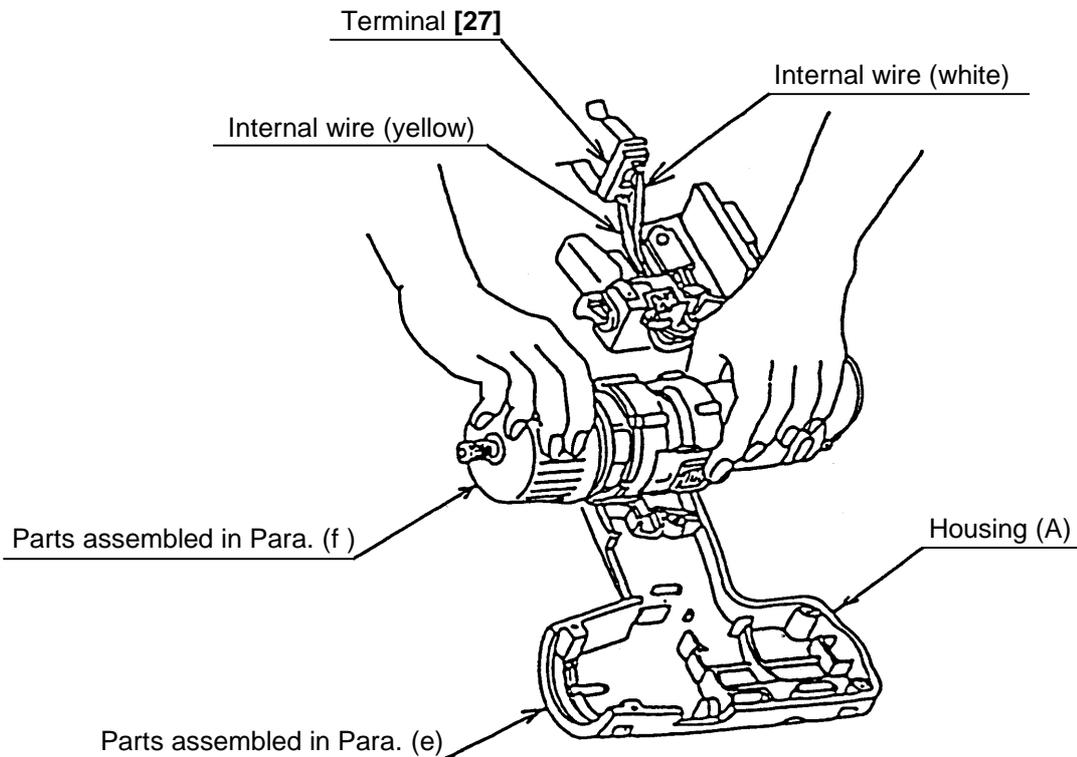

Fig. 16
(g) Mount the components assembled as described in Para. (f) onto the components assembled as described in Para. (e). At this time, ensure that colored leadwires soldered to the Terminal [27] are properly aligned with relation to housing (A) and housing, (B). (See Fig. 16)